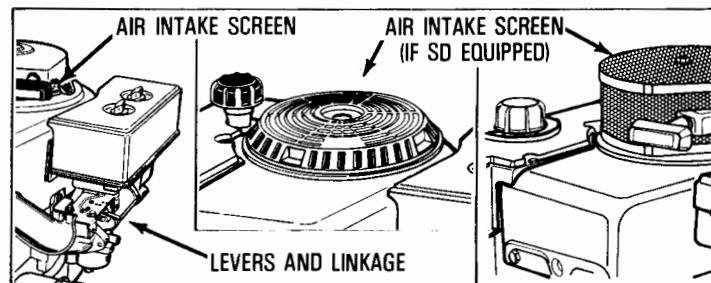

Figure 3
- BE SURE AIR INTAKE SCREEN (IF SO EQUIPPED - SEE FIGURE 3) IS SECURELY IN PLACE TO AVOID CONTACT WITH MOVING PARTS.**
### ③ COOLING SYSTEM (see Figure 3):